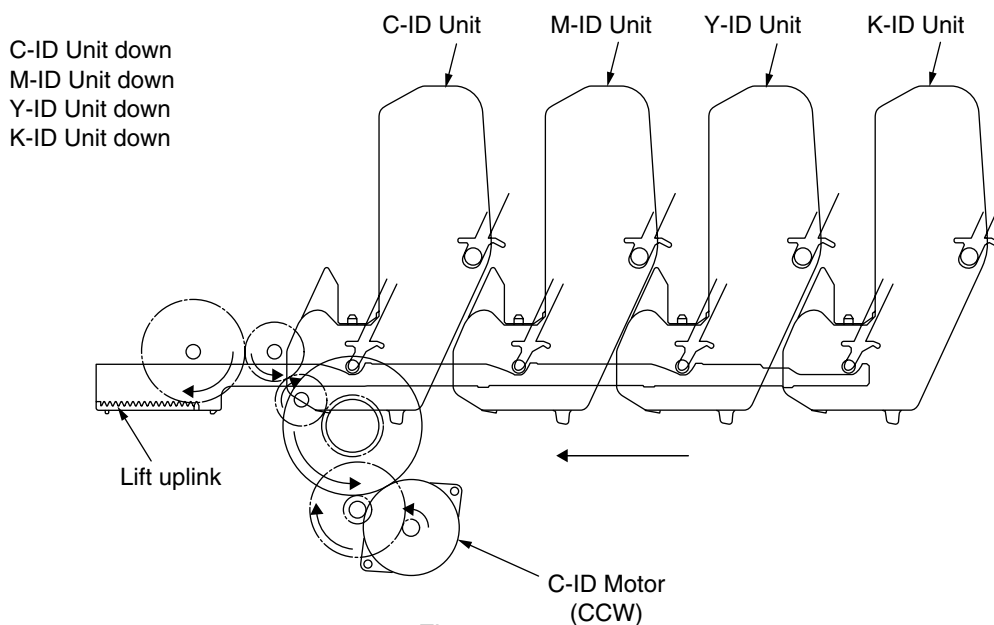

Figure 2-6
2. Figure 2-6 shows the motions of the different ID units when the printer is operated for color print. As the lift-up motor rotates (Clockwise turn), the lift-up link slides to the left, causing the ID units to come down, as can be seen in Figure 2-6. Namely, the printer is readied for color print.